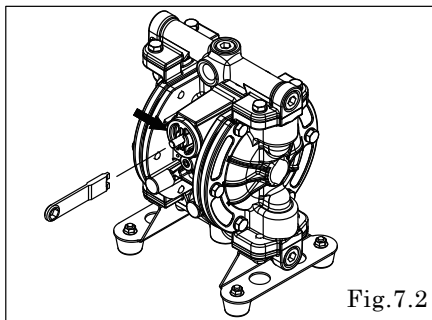

Fig.7.2
- Remove the cap A and cap B using the cap and disk remover. (special tool: Part No. 771132). [Fig.7.2]